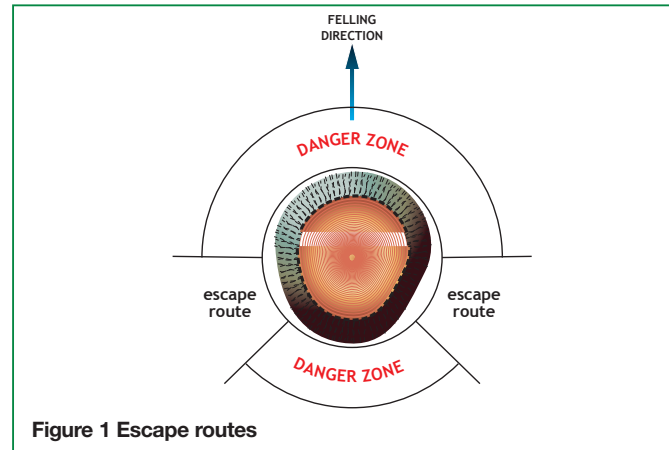

Figure 1 Escape routes
- 8 Decide the direction of fall and select a suitable escape route (see Figure 1). Ensure the escape route is clear of obstructions.